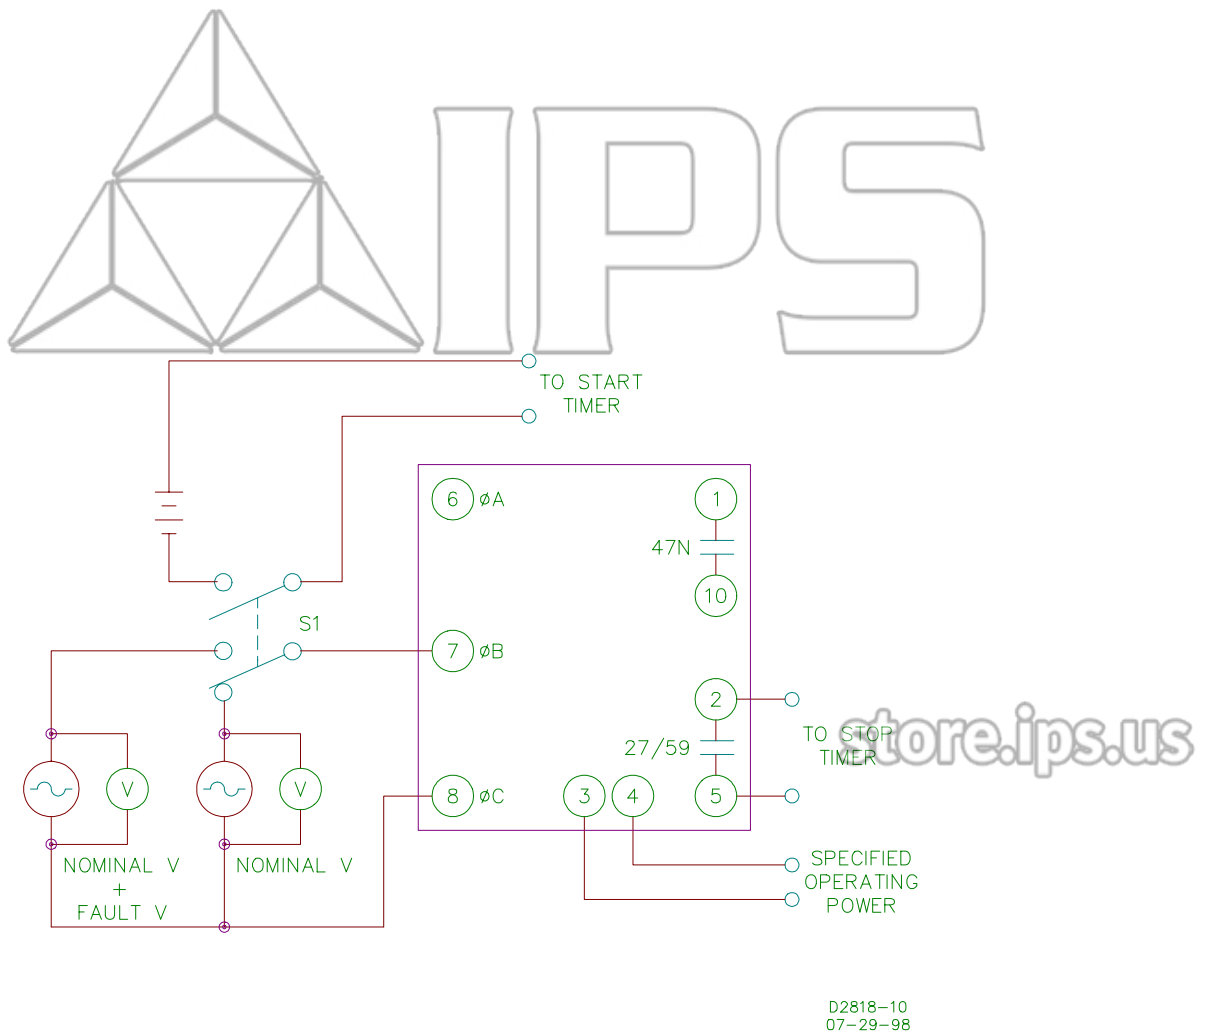

Figure 5-2. Test Circuit Diagram (27, 59)
STEP 1. Connect the test setup as shown in Figure 5-2, Test Circuit Diagram.